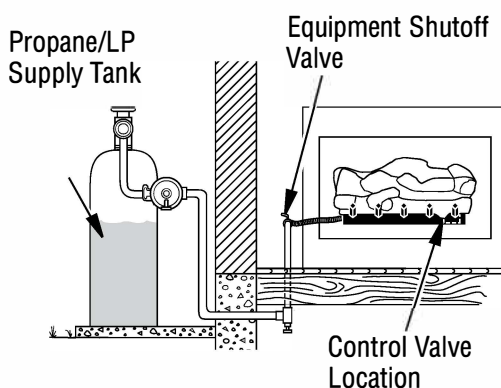

Figure 16 - Checking Gas Joints (Propane/LP Only)
3. Check all joints from gas meter to equipment shutoff valve for natural gas or propane/LP supply to equipment shutoff valve for propane/LP (see *Figures 16 or 17*). Apply noncorrosive leak detection fluid to all joints. Bubbles forming show a leak.